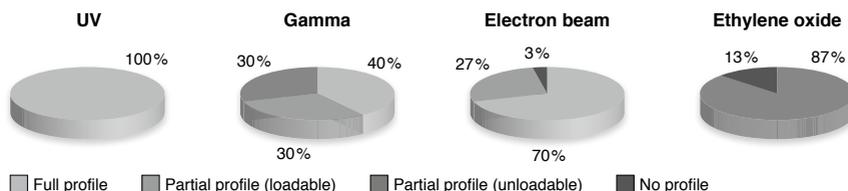

Figure 1 According to Shaw et al., 2008, Comparison of the effects of sterilization techniques on subsequent DNA profiling. *Int J Legal Med* 122: 29–33.
NucleoSpin® gDNA Clean-up XS is certified as forensic quality product. Consumables used in forensics need to be treated carefully to prevent DNA contamination. MACHEREY-NAGEL therefore has a stringently controlled production process to avoid DNA contamination of consumables. Further, MACHEREY-NAGEL uses ethylene oxide (EO) treatment to remove amplifiable DNA, which might still be introduced during the manufacturing process. MACHEREY-NAGEL products carrying the forensic quality seal, contain plastic materials that are EO treated. This means, DNA of any kind, which might still be introduced into plastic consumables during the production process, is inactivated by means of the treatment with ethylene oxide, in order to prevent the generation of accidental human profile by PCR amplification. Ethylene oxide treatment has been shown to be the method of choice to prevent DNA profiles due to DNA contamination (Shaw et al. 2008; Figure 1).